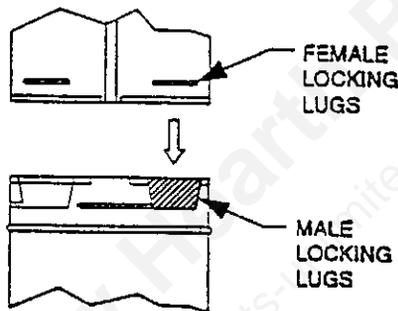

Fig. 12
(1) Twist-lock procedure: Four indentations, located on the female ends of pipes and fittings, are designed to slide straight onto the male ends of adjacent pipes and fittings, by orienting the four pipe indentations so they match and slide into the four entry slots on the male ends. (Figure 12) Push the pipe sections completely together, then twist-lock one section clockwise approximately one-quarter turn, until the two sections are fully locked. The female locking lugs will not be visible from the outside, on the Black Pipe or fittings. They may be located by examining the inside of the female ends.
(2) Horizontal runs of vent must be supported every three feet. Wall Straps are available for this purpose.